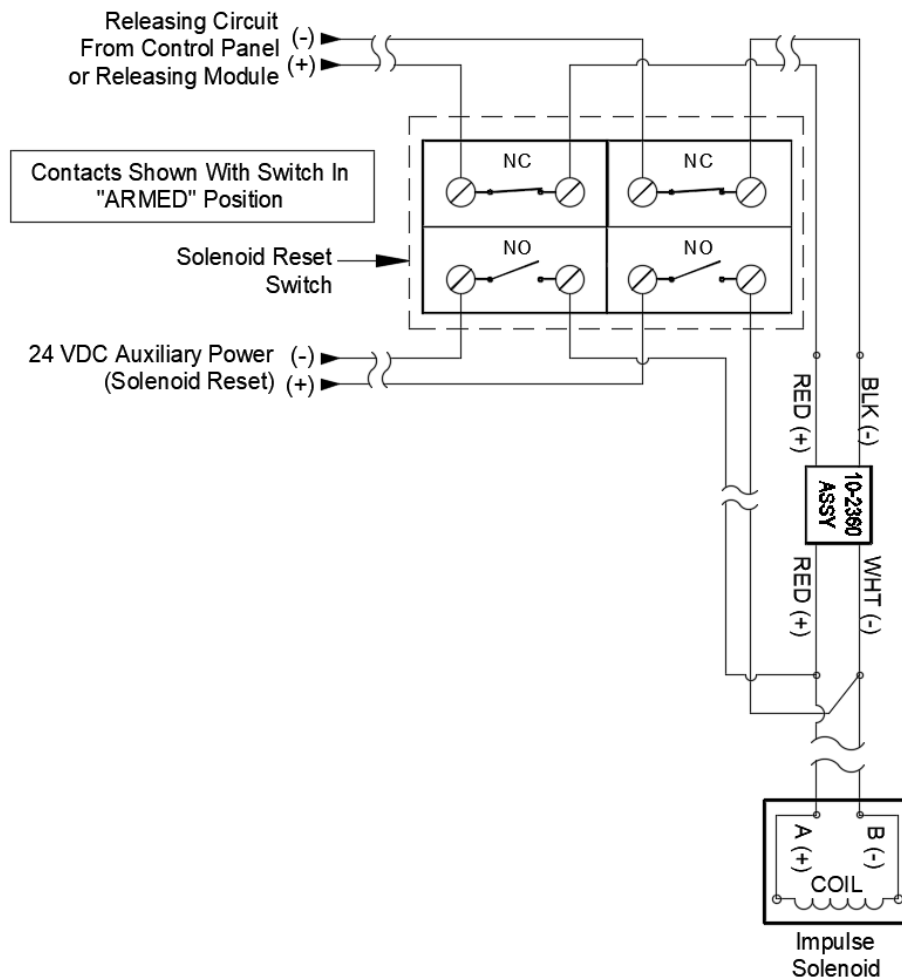

Figure 2: Solenoid Reset Switch Wiring Diagram
5. Connect the Solenoid Protection Assembly (P/N 10-2360) to the impulse solenoid coil, as shown in Figure 2.
7. Connect field wiring to appropriate switch contact blocks as shown in Figure 2, observing correct polarity.